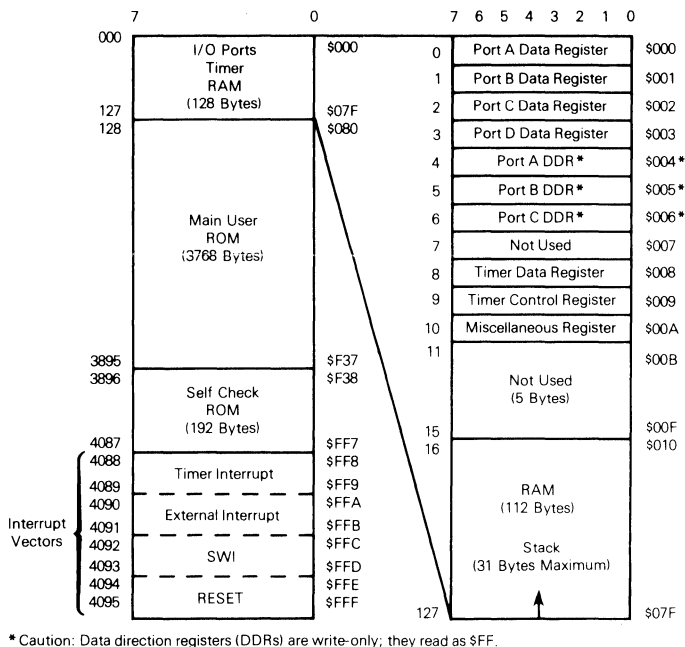

Figure 4. Memory Map
The MCU is capable of addressing 4096 bytes of memory and I/O registers. The memory map is shown in Figure 4. The locations consist of user ROM, self-check ROM, user RAM, a miscellaneous control register (MR), timer